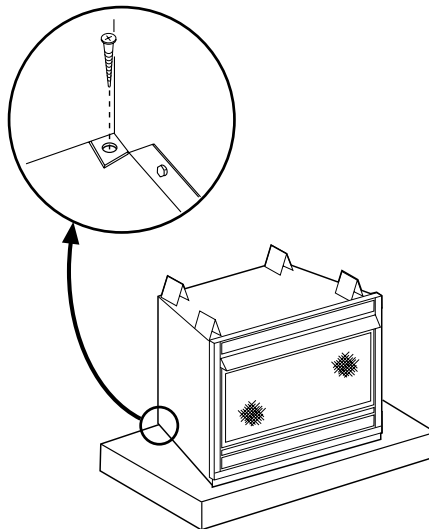

Figure 13
Step 7. Position Heater – Place the heater in desired location. It may be helpful to temporarily assemble the surround around the appliance to properly locate the unit. Refer to Figure 13 for floor and platform installations. If the heater is to be installed into a framed wall refer to the built-in assembly steps beginning on page 5.
Step 8. Secure Heater – Bend the tabs down (Figure 13). Using two (2) screws securely tighten the appliance to the platform.